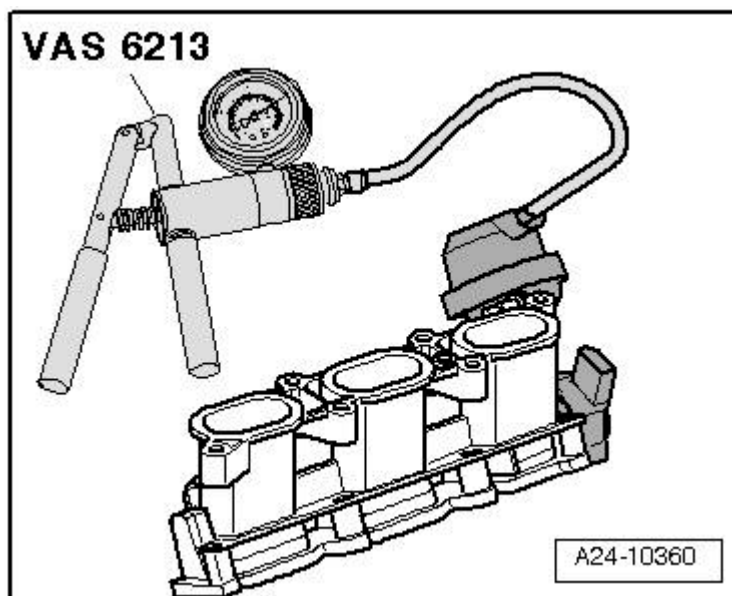

Figure 1. Vacuum pump VAS 6213
1. Identify the defective vacuum actuator. Use Guided Fault Finding (GFF), or use the vacuum pump (Figure 1) to determine which actuator is defective.